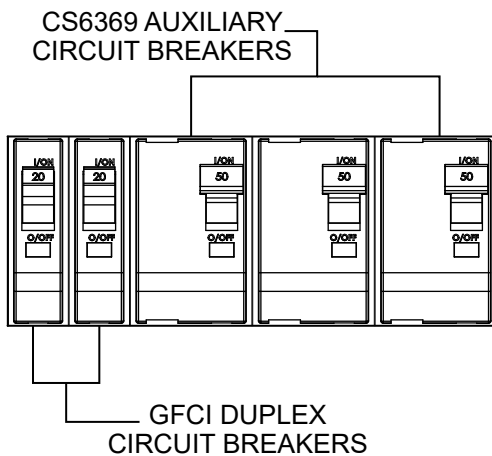

Figure 58. GFCI And Auxiliary Circuit Breakers (ON)
9. Place the **GFCI and auxiliary circuit breakers** (Figure 58) in the **ON** position to send power to the GFCI (120V) and auxiliary (dual-voltage) receptacles.